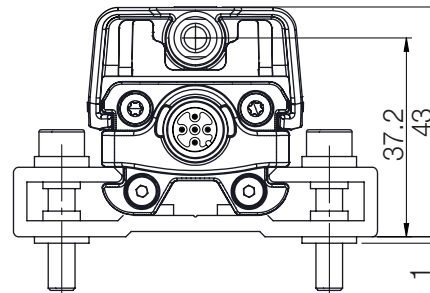
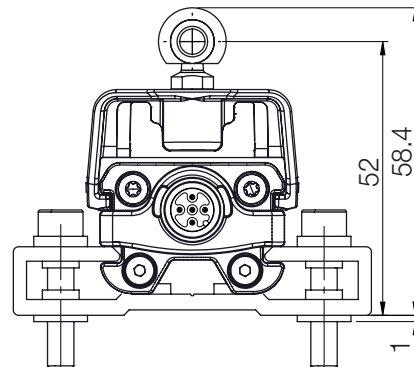
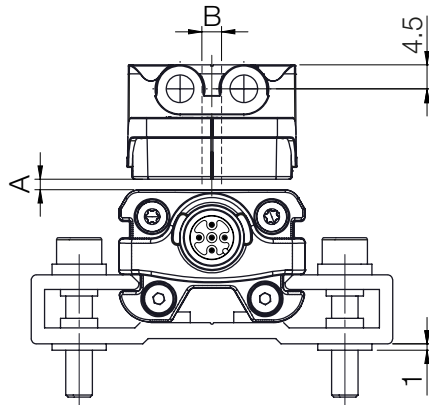
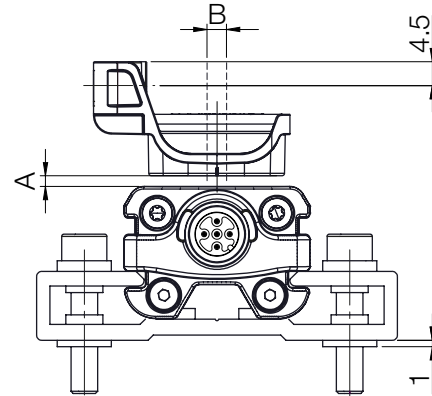

Fig. 5-1: Dimensions and distances with BAM TG-IR-037-A
Fig. 5-2: Dimensions and distances with BAM TG-IR-037-B
Fig. 5-3: Dimensions and distances with BAM TG-IR-036-A
Fig. 5-4: Dimensions and distances with BAM TG-IR-036-B
The BIR inductive rapid positioning system is suitable both for floating, i.e. non-contacting targets (see Fig. 5-3 and Fig. 5-4) and for guided targets (see Fig. 5-1 and Fig. 5-2).
- For distance A between the target and the BIR and for the center offset B (see Fig. 5-3 and Fig. 5-4) the following values must be maintained: